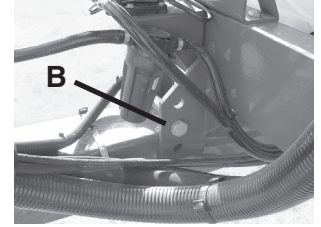

Fig 52
- 3 Tighten hitch bolts (B Fig 52) - 370 Nm (270 lbf-ft).